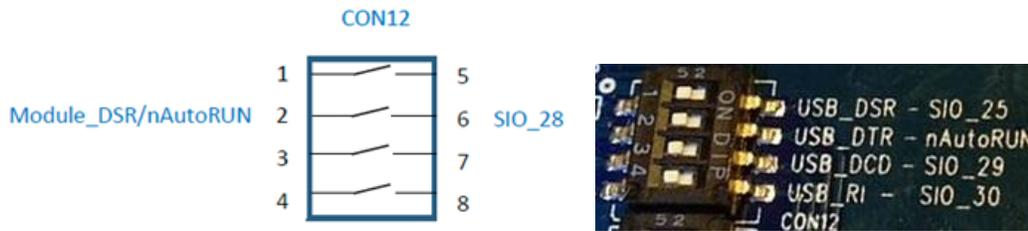

Figure 6: Micro DIP switch CON12 open (nAutoRUN controlled by J6 jumper on pin 1-2)
- CON12 (pin 2-6) MUST be OPEN to allow nAutoRUN pin (SIO.28) to be controlled by J6 (with jumper fitted to J6 pin1-2 to select nAutoRUN (see Figure 6).